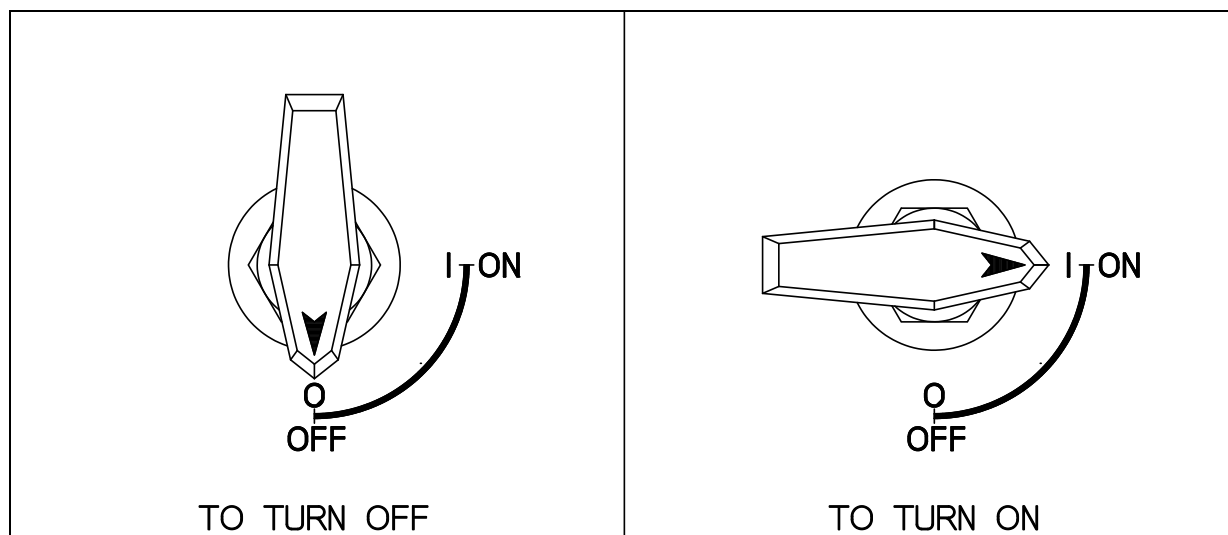

Figure 12: Master On-Off Valve
- Check that the master on-off valve is at the OFF position (Figure 12, Section 4.1).